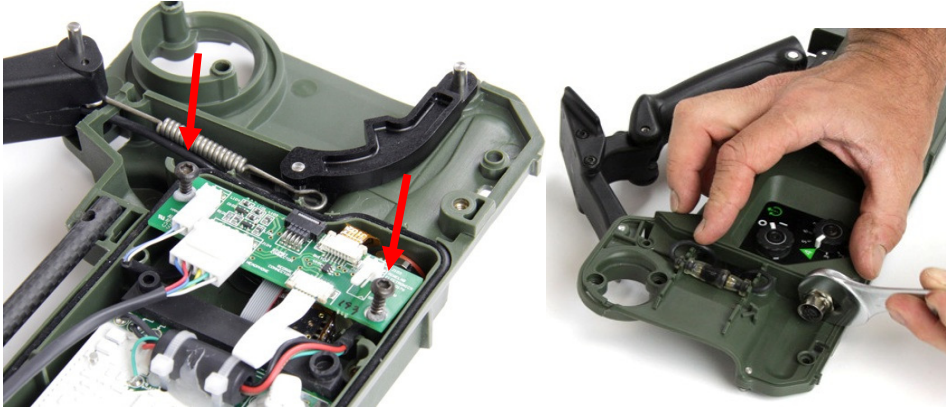

Figure 46: Interface PCB and Coil Connector Nut
- Insert the two (2) screws (12mm) to the interface PCB. Figure 46.
- Connect the nut (18mm) to the coil connector and tighten. Figure 46.